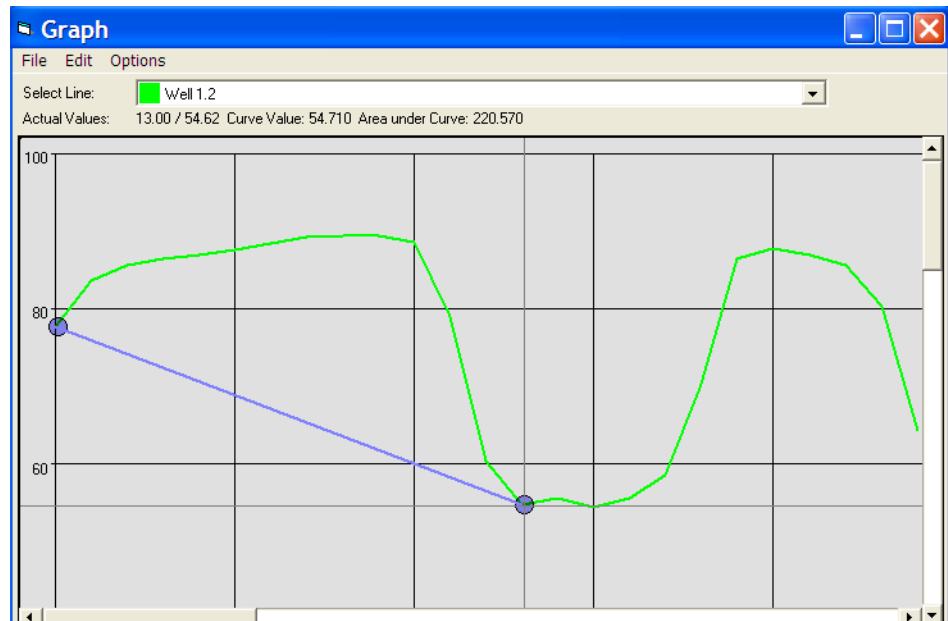

Figure 7-18: Graph – calculating the area under a curve
2. From the Options menu, choose **Calculate Area under Curve**. A blue straight line with endpoints appears (Figure 7-18). The calculated area under the curve is displayed in Actual Values.